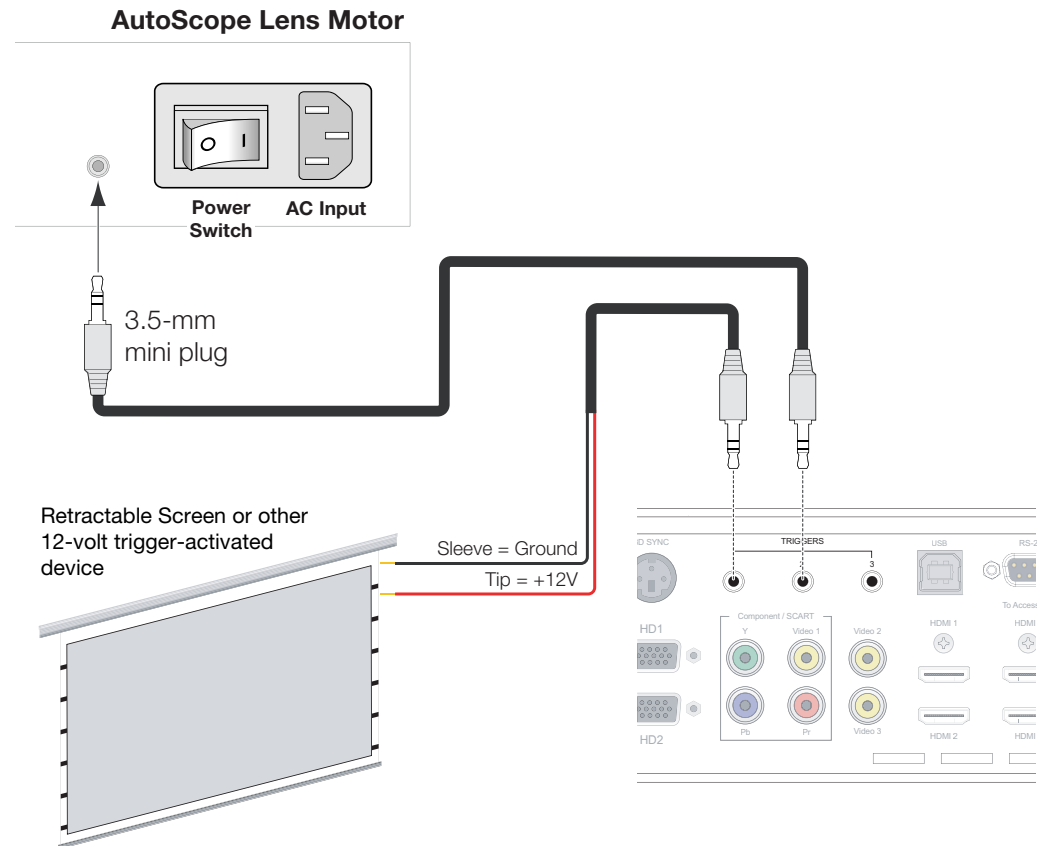

Figure 3-17. Connecting 12-volt Trigger Outputs
Connecting 12-volt Trigger Outputs to External Equipment: If your X-400d/X-450d is equipped with an anamorphic lens, connect the **+12V Trigger Input** on the lens transport to a 12-volt trigger output on the Dimension Digital Controller; see Figure 3-17.
2. If this is an AutoScope-equipped projector, turn on the main power switch at the rear of the AutoScope lens motor. The lens motor power switch is located next to the AC input (see Figure 3-17).